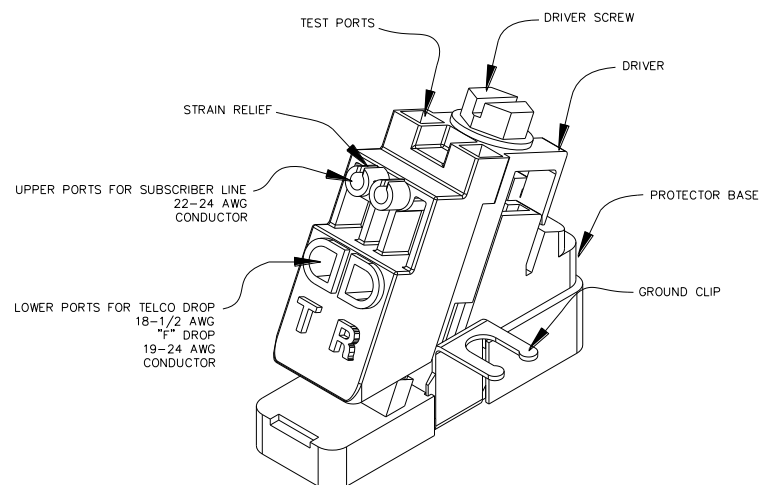
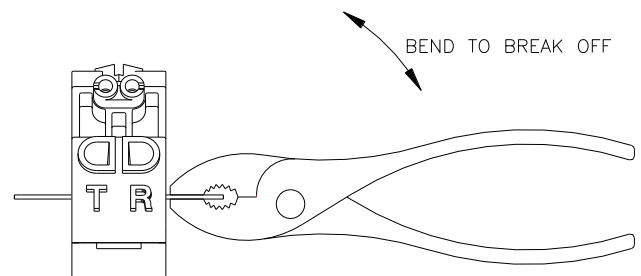

Figure 1
Figure 2
1. The Angle Driver is delivered with a universal grounding and mounting tab (See Figure 1). If installing a new module into a NID, break away the unwanted ground tab from the module using a pair of pliers and discard (See Figure 2). Install module on desired NID ground post and secure with washer and nut.